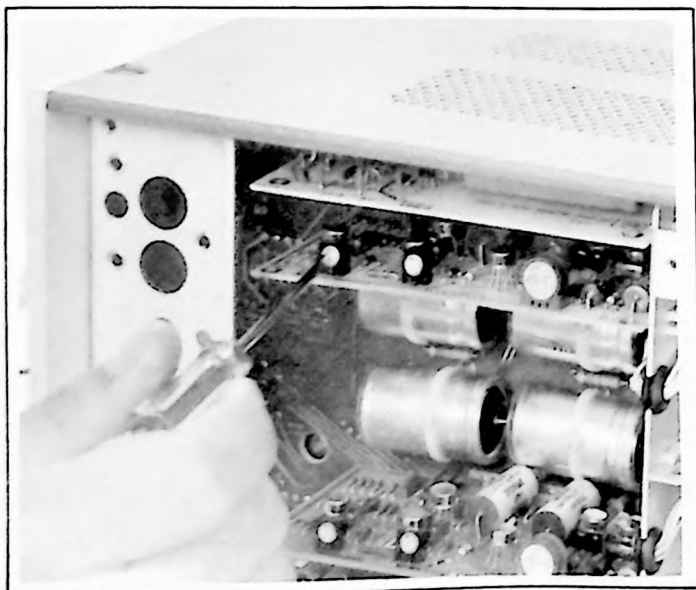

Figure 5-20. Offscale Limit Adjustments
- d. With right-hand limit (A2R16) set fully counterclockwise, adjust right-hand limit potentiometer to point at which servo motor rotation just ceases operation (Figure 5-20). (It may be necessary to hold slider manually against spacer in order to prevent oscillation against spacer/number combination.)